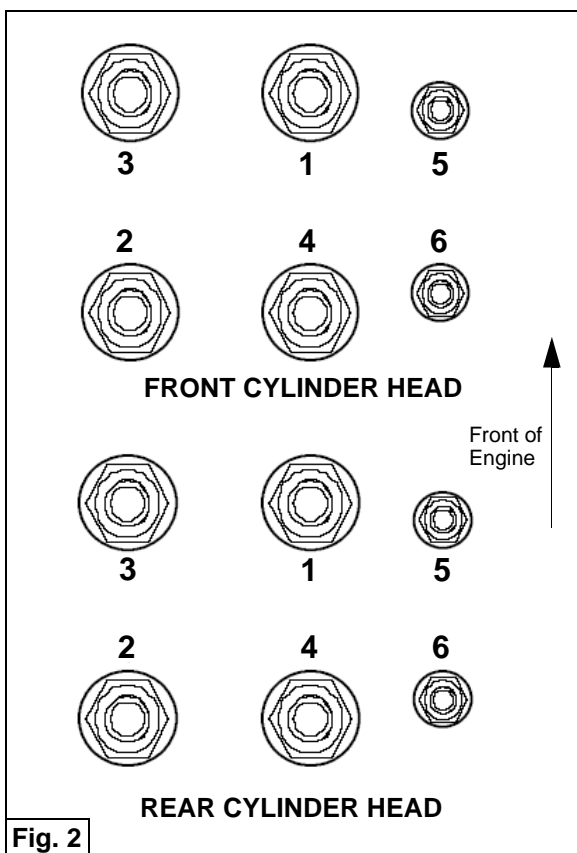

Fig. 2
14. *Slowly and evenly* tighten cylinder head nuts following torque sequence in Fig. 2. This allows hydraulic lifters to bleed off pressure. Tighten only enough to seat cam carrier on head.
Step 2 Follow torque pattern shown in Fig. 2.